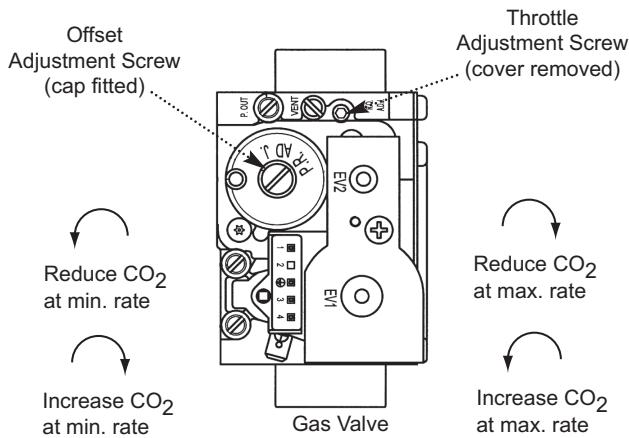

Fig. 57
4. Check the CO₂ is 9.3% $\pm 0.1\%$. If the CO₂ is incorrect alter the Throttle Adjustment Screw (Fig. 57). Turn the screw anticlockwise to increase the CO₂ or clockwise to decrease (2.5mm hexagon key).
6. Check the CO₂ is 8.9% $\pm 0.1\%$. If the CO₂ is incorrect alter the Offset Adjustment Screw (Fig. 57). Turn the screw clockwise to increase the CO₂ or anticlockwise to decrease (4mm hexagon key).